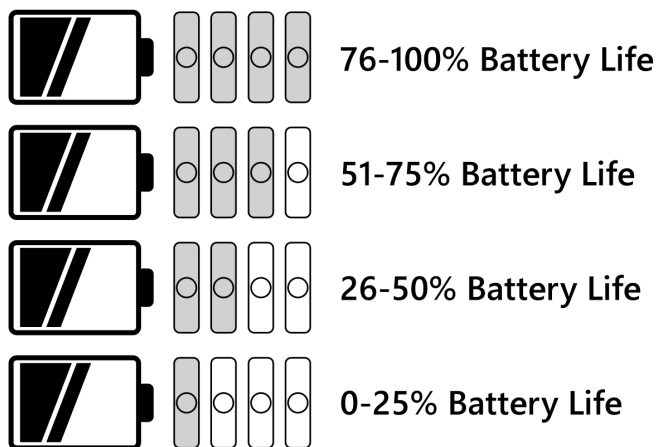

Figure D-1: BNCE-24VLI-4C battery life indicator
- Batteries included with the tool include a battery life LED indicator on the battery unit, located directly below the release button on the rear of the battery. You may view the estimated charge remaining by depressing the button to the left of four (4) LED lights on the battery housing. The LED indicator will light for several seconds as shown, based on the current charge - See Figure D-1.